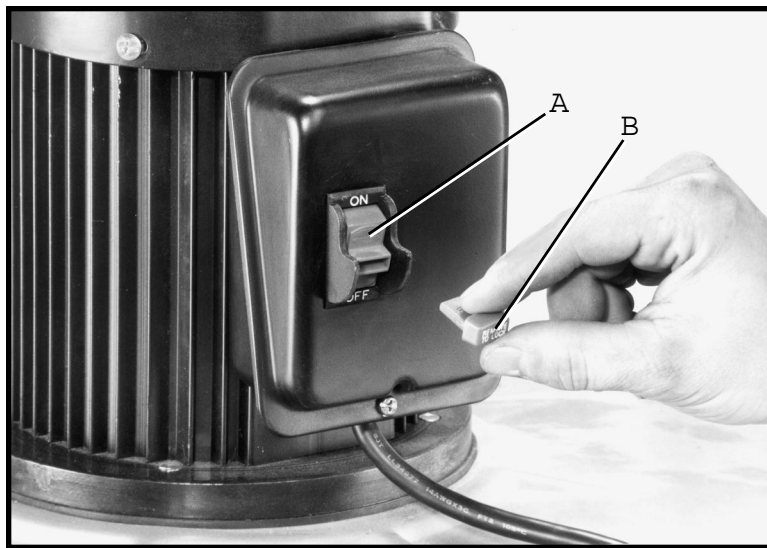

Fig. 23
We suggest when the dust collector is not in use that the ON/OFF switch be locked in the OFF position. This can be done by grasping the switch toggle (B) Fig. 23, and pulling it out of the switch (A) as shown. With the switch toggle (B) removed, the switch will not operate. However, should the switch toggle (B) Fig. 23, be removed while the machine is running, it can be turned OFF, but cannot be restarted without inserting the switch toggle (B) back into the switch.